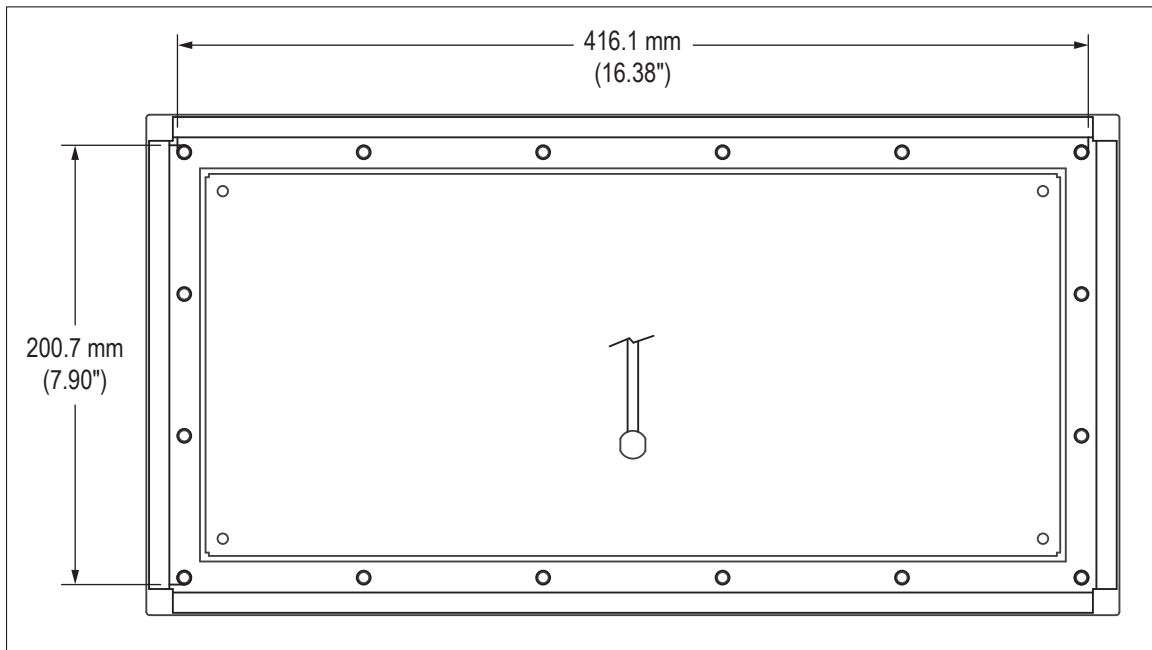

FIGURE 1 – REAR VIEW SHOWING CUTOUT DIMENSIONS
1. Cut mounting pattern in panel. Refer to Figure 1 for the cutout dimensions.